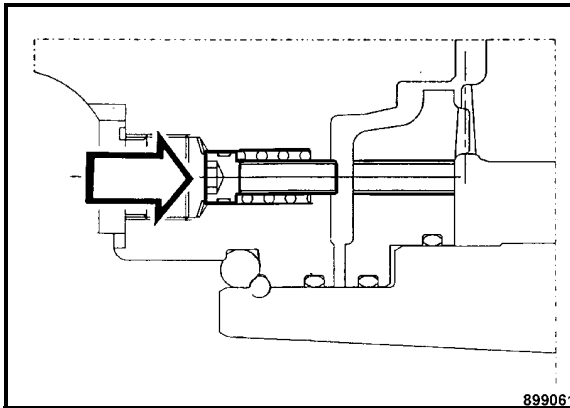

Fig. 100
- Press both screws (Fig. 100) in against springs.